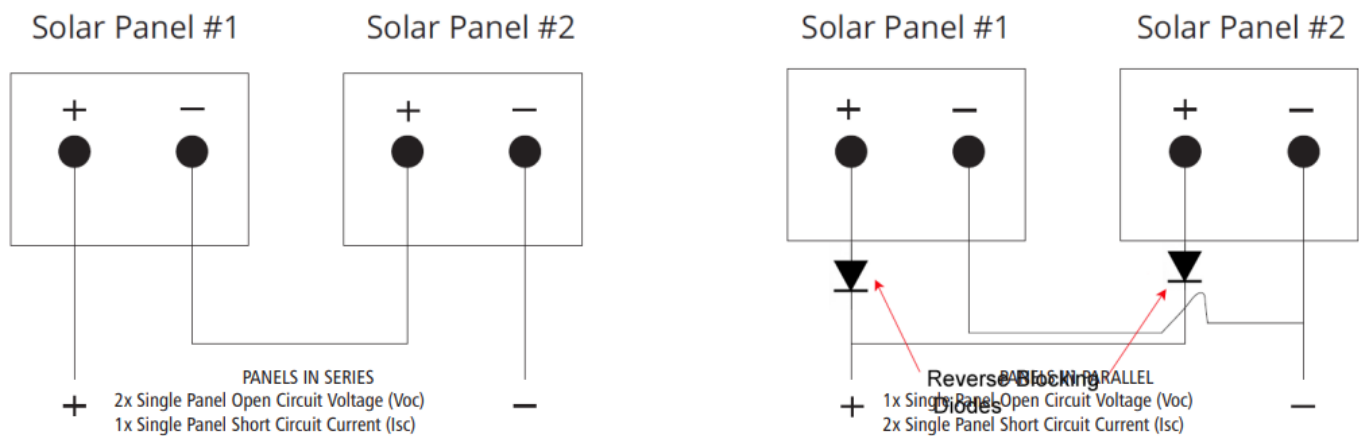

FIGURE 4-A
- To connect panels in series, connect the negative (-) plug of panel #1 to the positive (+) plug of the panel #2. See Figure4-A left.